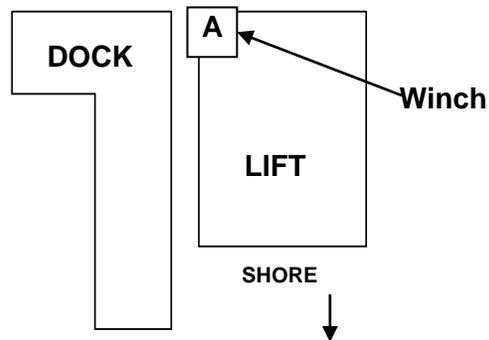

FIG. 37 – PREFERRED POSITION ABOVE
2. When lift is placed into the water, the winch needs to be positioned next to the dock (See FIG. 37 and 38). Position lift accordingly before placing lift into water.
NOTE: The **PREFERRED POSITION** of the lift is on the right side of the dock when viewed from the shore (See FIG.37). When the lift is installed in this position, the winch and lifting cable are at the rear of the boat where most of the weight load is concentrated. The lift may be installed on either side of the dock but, keep in mind, if you have a choice, install it as shown in FIG. 37.